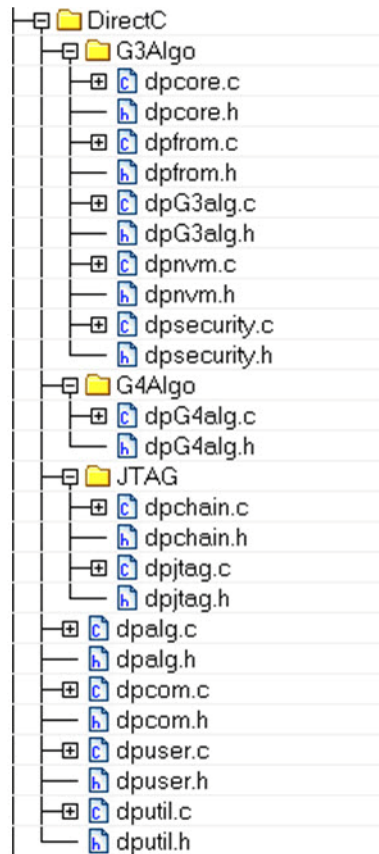

Figure 2-2 • DirectC v3.2 Files to import into your Development Environment
1. Import the DirectC v3.2 files shown in Figure 2-2 into your development environment.